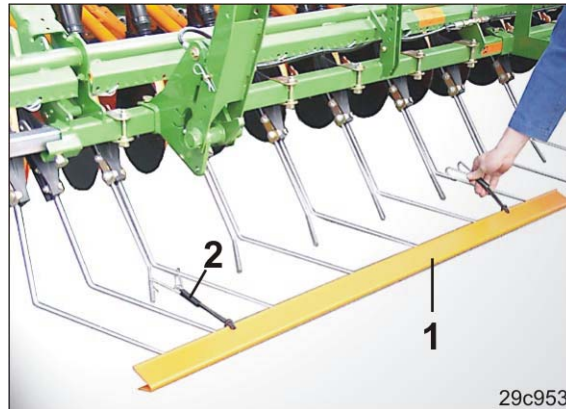

Fig. 165
1. Push the multi-part transport safety bar (Fig. 165/1) over the tine tips of the exact following harrow.
2. Fasten the transport safety bar to the exact following harrow with spring holders (Fig. 165/2).